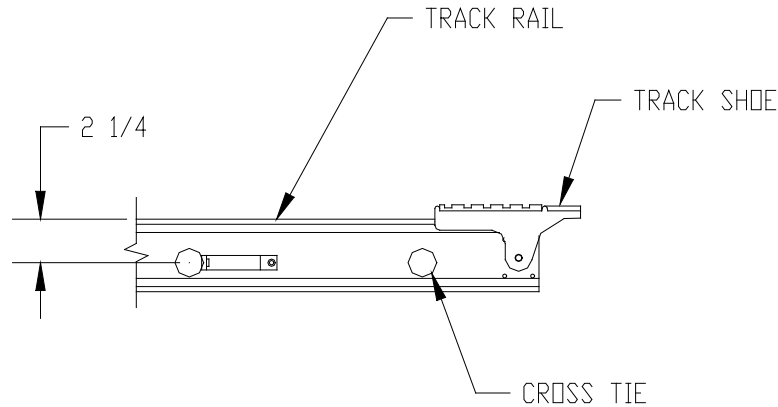

Figure 3-3.
1. Refer to Figure 3-3. Both models have the track cross ties offset from the center of the rails to allow passage of the platform wheels. Before erecting the track, lay the bottom 16-foot track section on the ground with the track shoes as shown with the greater cross tie offset on top (2-1/4").